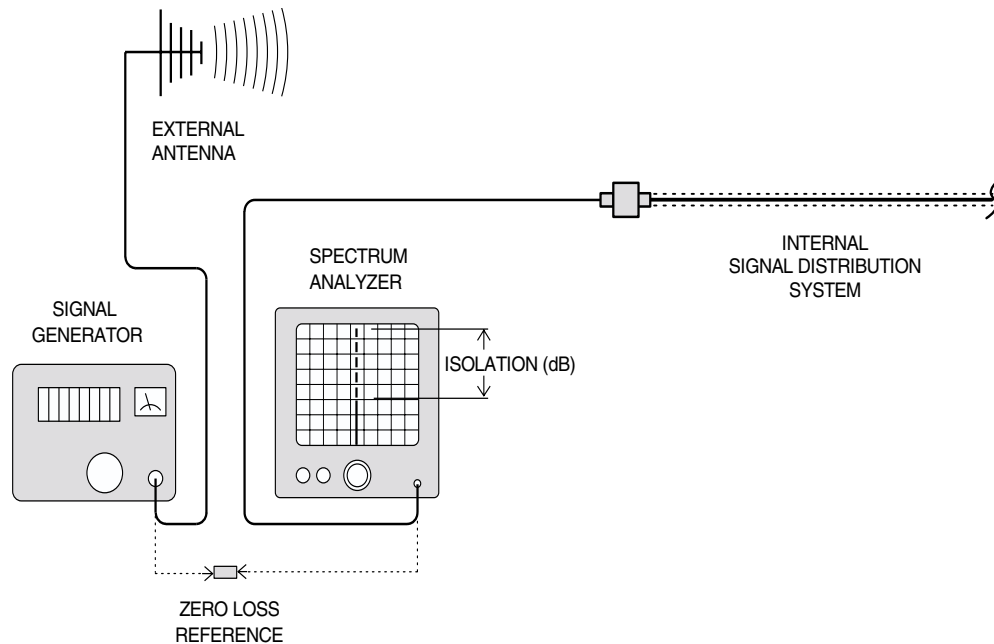

Figure 4: Typical test equipment interconnection for measuring antenna isolation.
- 3) Connect the test leads of the signal generator and the spectrum analyzer together using a female barrel connector, see **Figure 4**. Observe the signal on the analyzer and adjust the input attenuator of the spectrum analyzer for a signal level that just reaches the 0 dBm level at the top of the graticule.
- 4) Referring to figure 4, connect the generator test lead to one side of the signal distribution system (external antenna) and the spectrum analyzer lead to the other (internal distribution system) and observe the signal level. The difference between this observed level and 0 dBm is the isolation between the sections. If the signal is too weak to observe, the spectrum analyzer's bandwidth may have to be narrowed and its input attenuation reduced. Record the isolation value. **The isolation value measured should exceed the signal boosters gain figure by at least 15 dB.**